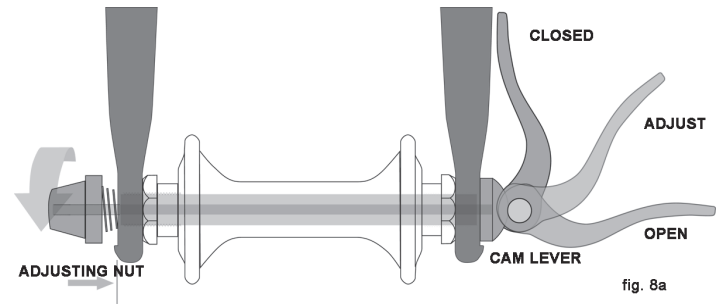
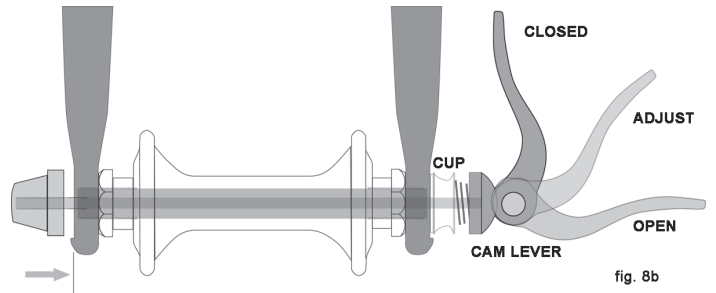

fig. 8a
fig. 8b
There are currently two types of over-center cam wheel retention mechanisms: the traditional over-center cam (fig. 8a) and the cam-and-cup system (fig. 8b). Both use an over-center cam action to clamp the bike's wheel in place. Your bicycle may have a cam-and-cup front wheel retention system and a traditional rear wheel cam action system.
##### a. Adjusting the traditional cam action mechanism (fig. 8a)
#### b. Adjusting the cam-and-cup mechanism (fig. 8b)
(2) If your bike has cam action front wheel retention, move the cam lever from the locked or CLOSED position to the OPEN position (figs. 8a & b). If your bike has through bolt or bolt-on front wheel retention, loosen the fastener(s) a few turns counter-clockwise using an appropriate wrench, lock key or the integral lever.
(3) If your front fork has a clip-on type secondary retention device, disengage it and go to step (4). If your front fork has an integral secondary retention device, and a traditional cam action system (fig. 8a) loosen the tension adjusting nut enough to allow removing the wheel from the dropouts. If your front wheel uses a cam-and-cup system, (fig. 8b) squeeze the cup and cam lever together while removing the wheel. No rotation of any part is necessary with the cam-and-cup system.
(1) If your bike has cam action front wheel retention, move the cam lever so that it curves away from the wheel (fig. 8b). This is the OPEN position. If your bike has through bolt or bolt-on front wheel retention, go to the next step.
(2) With the steering fork facing forward, insert the wheel between the fork blades so that the axle seats firmly at the top of the fork dropouts. The cam lever, if there is one, should be on rider's left side of the bicycle (fig. 8a & b). If your bike has a clip-on type secondary retention device, engage it.
(3) If you have a traditional cam action mechanism: holding the cam lever in the ADJUST position with your right hand, tighten the tension adjusting nut with your left hand until it is finger tight against the fork dropout (fig. 8a). If you have a cam-and-cup system: the nut and cup (fig. 8b) will have snapped into the recessed area of the fork dropouts and no adjustment should be required.
(4) While pushing the wheel firmly to the top of the slots in the fork dropouts, and at the same time centering the wheel rim in the fork:
(a) With a cam action system, move the cam lever upwards and swing it into the CLOSED position (fig. 8a & b). The lever should now be parallel to the fork blade and curved toward the wheel. To apply enough clamping force, you should have to wrap your fingers around the fork blade for leverage, and the lever should leave a clear imprint in the palm of your hand. (b) With a through-bolt or bolt-on system, tighten the fasteners to the torque specifications in the hub manufacturer's instructions.
(3) On a derailleur gear system, pull the derailleur body back with your right hand.
(4) With a cam action mechanism, move the quick-release lever to the OPEN position (fig. 8b). With a through bolt or bolt on mechanism, loosen the fastener(s) with an appropriate wrench, lock lever or integral lever; then push the wheel forward far enough to be able to remove the chain from the rear sprocket.
(5) Lift the rear wheel off the ground a few inches and remove it from the rear dropouts.
Some bikes are equipped with a cam action seat post binder. The seat post cam action binder works exactly like the traditional wheel cam action fastener (Section 4.A.2) While a cam action binder looks like a long bolt with a lever on one end and a nut on the other, the binder uses an over-center cam action to firmly clamp the seat post (see fig. 8a).